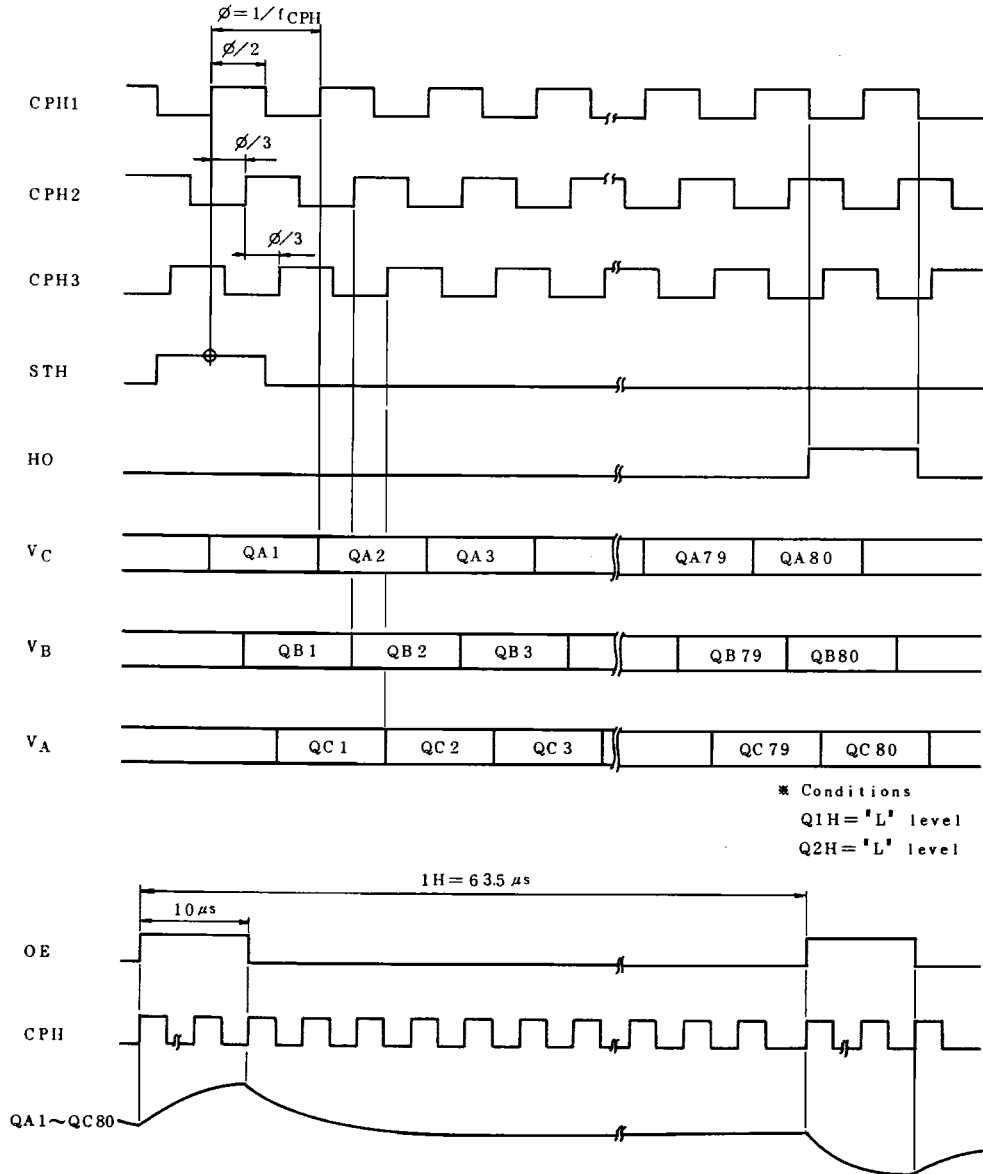

Fig. 1
TFT-LCD expanding pin (HO) outputs "H" level of one clock synchronously to the fall of CPH1. (cf. Fig.1)